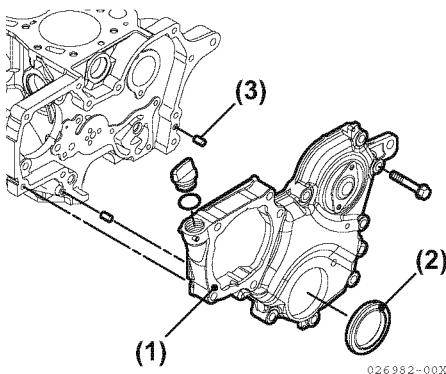

Figure 6-60
- Remove the seal (**Figure 6-60, (2)**) from the gear case cover (**Figure 6-60, (1)**).